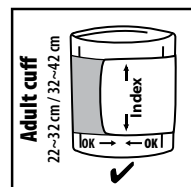

Fig. 8
7. This cuff is suitable for use if the <<index>> mark falls within the <<ok range>> marked by two arrows when the cuff is tightened around your arm (Fig. 8).